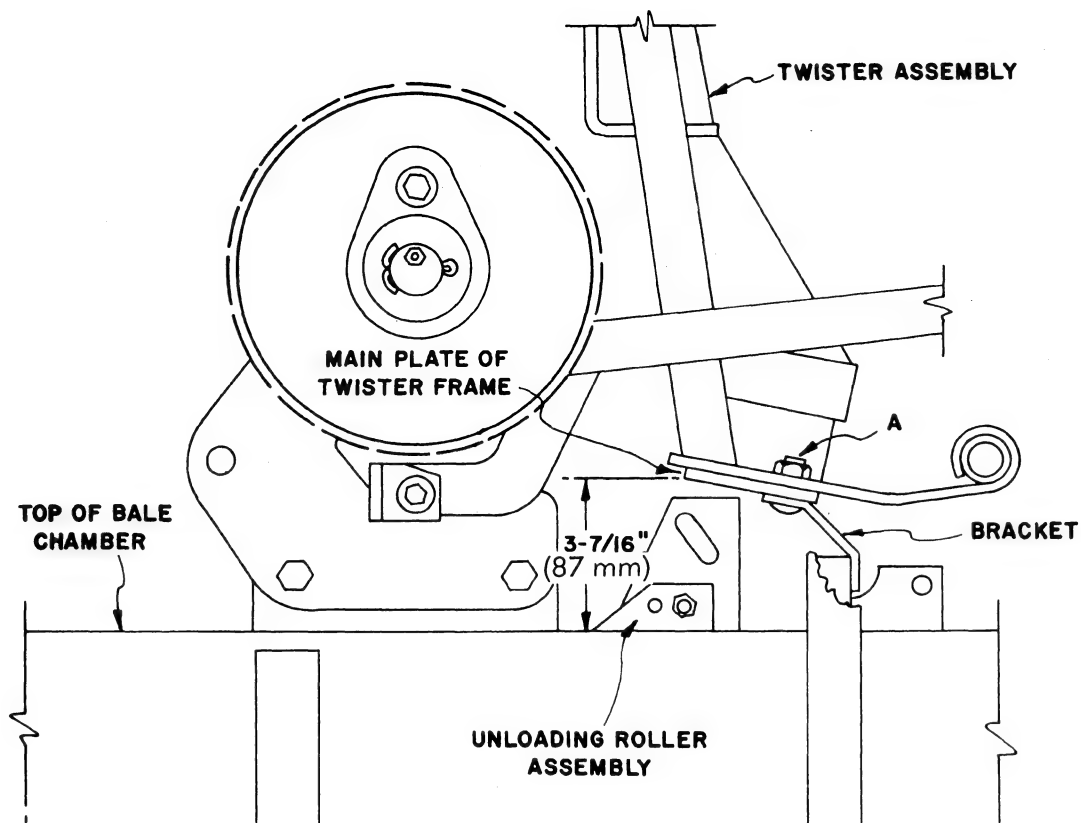

FIGURE 107
7. Remove bolt, A, Figure 107, and slide the twister frame and spacer from the twister shaft.
4. Slide the twister frame into position and install bolt, A, Figure 107. Adjust the twister frame up or down as required to obtain the 3-7/16" (87 mm) dimension shown in Figure 107.
The distance between the top of the chamber and lower edge of main plate on the twister frame should be 3-7/16" (87 mm). This adjustment can be obtained by bending the bracket shown in Figure 107 and raising or lowering the frame as required.
NOTE: After setting the twister hook height it is very important to check to see that the twister hooks clear the needles through the entire cycle. If the twister hooks should strike the needles it may be corrected by raising the twister frame slightly higher than the $3\frac{7}{16}$ " (87 mm) shown in Figure 107. If the frame is raised it will then be necessary to readjust the needles and twister hook height.